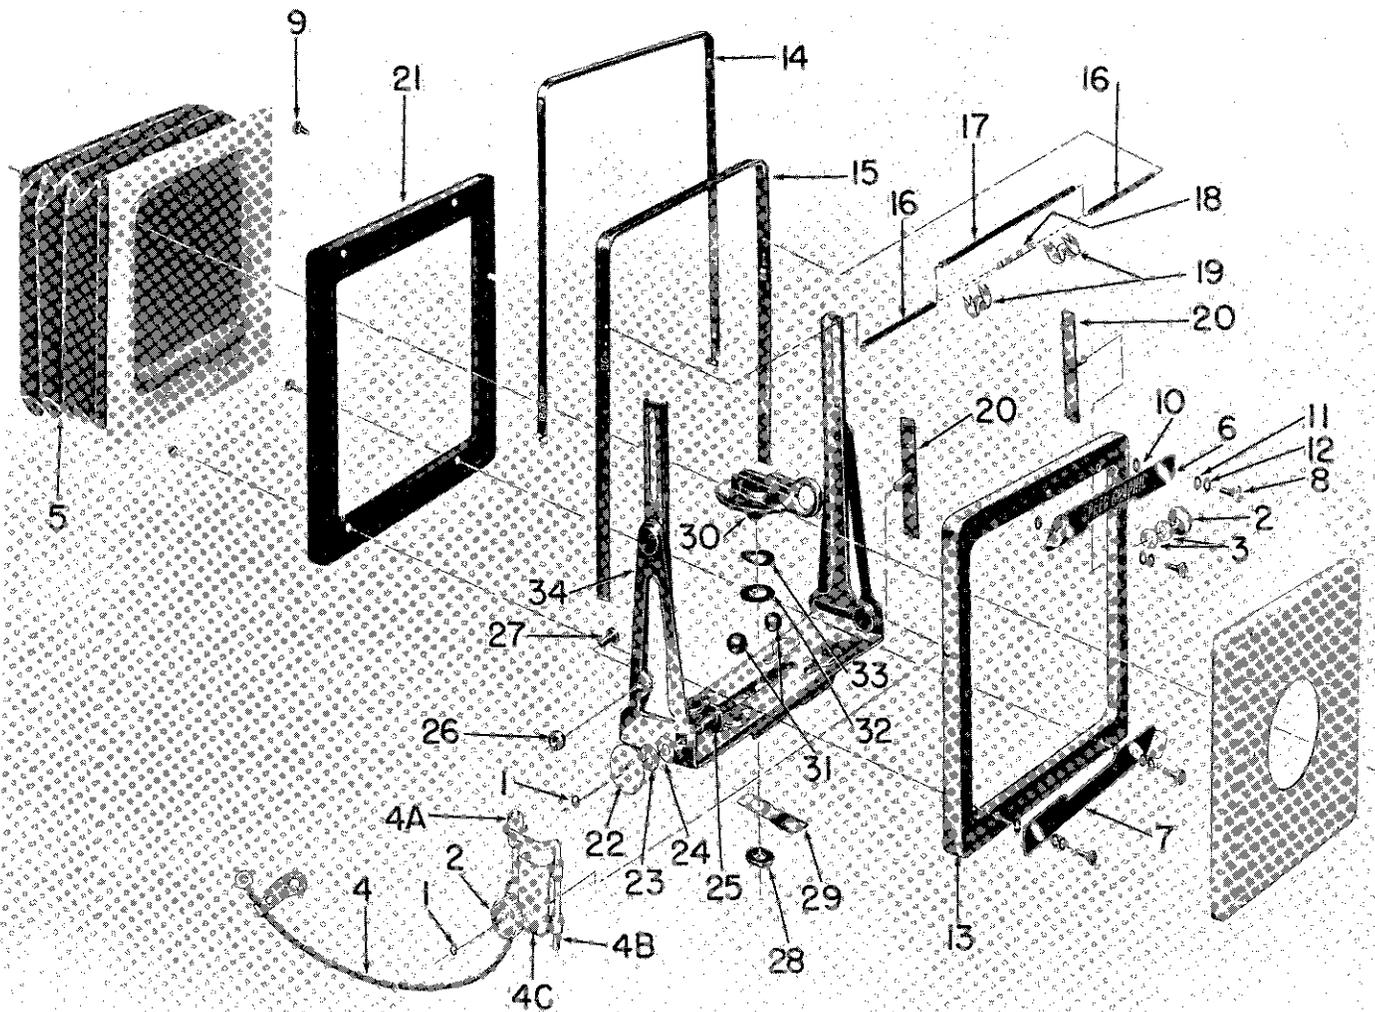

Figure 8. Front Standard, Exploded View
(f) Remove the bellows from the frame and support section by removing the lower slide lock (7, figure 8) that is secured by two slide lock screws (8). Swing the lower edge of the front bellows frame back and drop the upper edge free from the slide lock nut head.
2. Cable Release Assembly Removal. To replace the cable release assembly (4) proceed as follows:
(a) Remove the knob retaining ring (1, figure 8), used on early models, from each side of the frame clamp rising front knob (2) and unscrew the knob of each side of the frame. Later models have stud threads staked. Remove the upper and lower lensboard lock (6 and 7) that are attached by slide lockscrews(8), flat washers (10 and 11) and spring washers(12).
infinity stops and lock. Check the height with indicator at each corner and adjust the eccentrics (27, figure 8) or relocate the infinity stop (19 or 20, figure 1).
3. Inspect the finder (14, figure 8) and finder frame (15) for squareness. If the detent holes of the finder frame (15) have become worn by the finder plungers (16), replace the finder frame in order to hold in the desired parallax height.
1. Lateral Shift and Lock Lever. Assemble the lever assembly spring washer and the flat washer to the lever assembly (30, figure 8). Fit the two steel balls (31) into their position between the lever assembly (30) and the standard support assembly (34) and thread the lever assembly stud through the standard support assembly. Lay the shift locking spring (29) in position and assemble the special hexagon nut (28).
2. Adjusting Lock Lever. Check the front standard to determine how tightly it will lock by placing on the sliding yoke of the bed and setting the lock lever (30). It should clamp tightly enough to prevent slippage when the bellows and lens are assembled. To tighten the lock lever, loosen the lock nut (28) on the bottom side and turn the screw in a counter clockwise direction; to loosen the lock, turn the screw in a clockwise direction and then tighten the nut.
3. Lensboard Frame and Sight Reassembly. Lubricate the flat surface of each front frame clamp plate assembly (20) with grease, AN-G-6. Lubricate the sliding areas of the finder (14) and the finder frame (15) with grease, AN-G-6.
(d) Thread the manual trip bracket (4, figure 8) through the bellows hangers and mount the bracket over the right front frame clamp plate stud. Assemble the frame clamp knob (2) andpeen the first thread of the stud at one point.
(a) The manual trip clamp (16, figure 1) is clamped to the manual trip rod (4B, figure 8) and the relationship of the manual trip clamp to the shutter release lever is adjusted by means of the twin cable release nuts (4A).